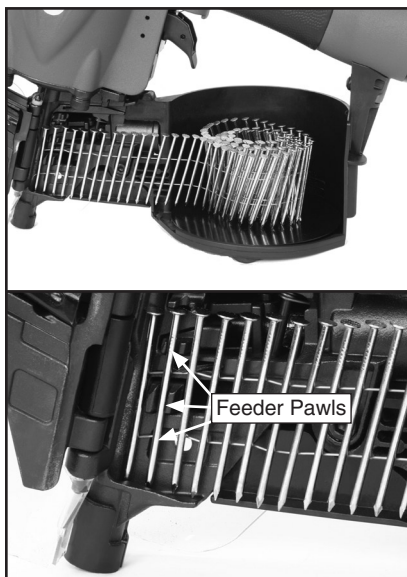

Figure 6. Loading nails in the magazine.
4. Place the nails over the adjusting plate post, and put the first nail into the feeder pawls as shown in **Figure 6**.